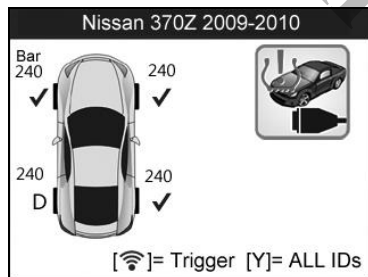

Figure 4.17
- 2) An activation screen with the previously activated sensor information will show up (Figure 4.17). Use the **UP/DOWN** or **LEFT/RIGHT** scroll button to select the desired wheel, and press the **TEST** button to reactivate the sensor, or press the **Y** button to view all detailed sensor data (Figure 4.18).